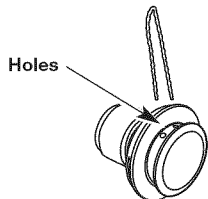

Fig. 16
4. Insert both ends of your line through the proper holes in the side of the cutting head (Fig. 16).